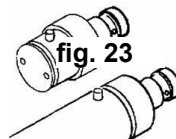

fig. 24
- Insert the Inlet Part into the Whipping Pipe. (fig. 24)